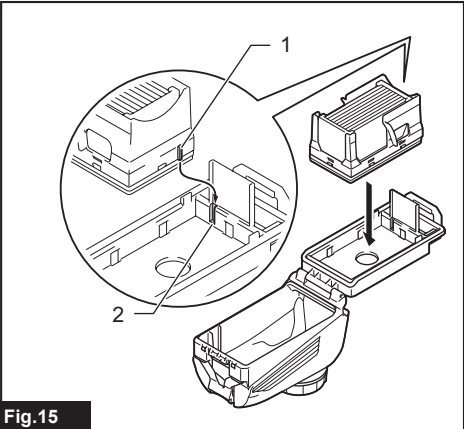

Fig.15
► Fig.15: 1. Guide projection 2. Groove